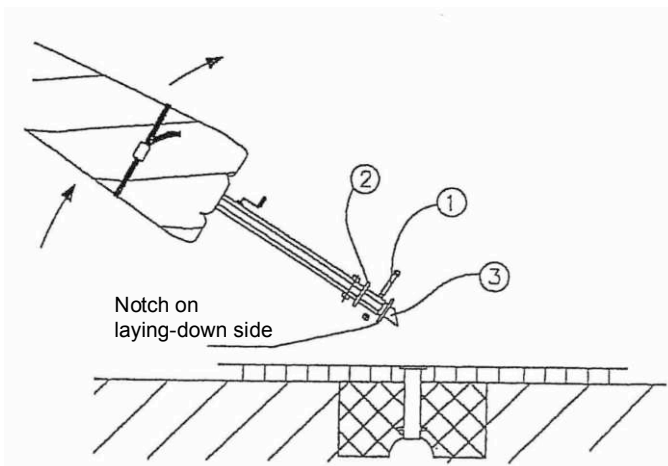

Fig. 2
- Remove the connecting bolt (1) from the mast upright tube (Fig. 2).